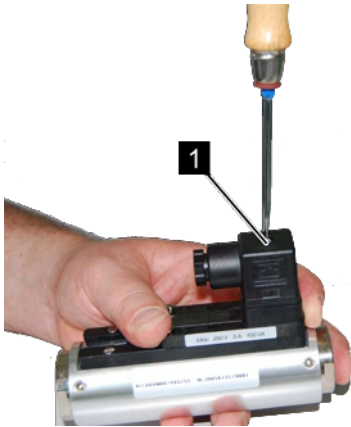

Fig. 57: Loosen female socket
1. ➤ Loosen the fixing screw (Fig. 57/1) of the female socket with a flat-bladed screwdriver